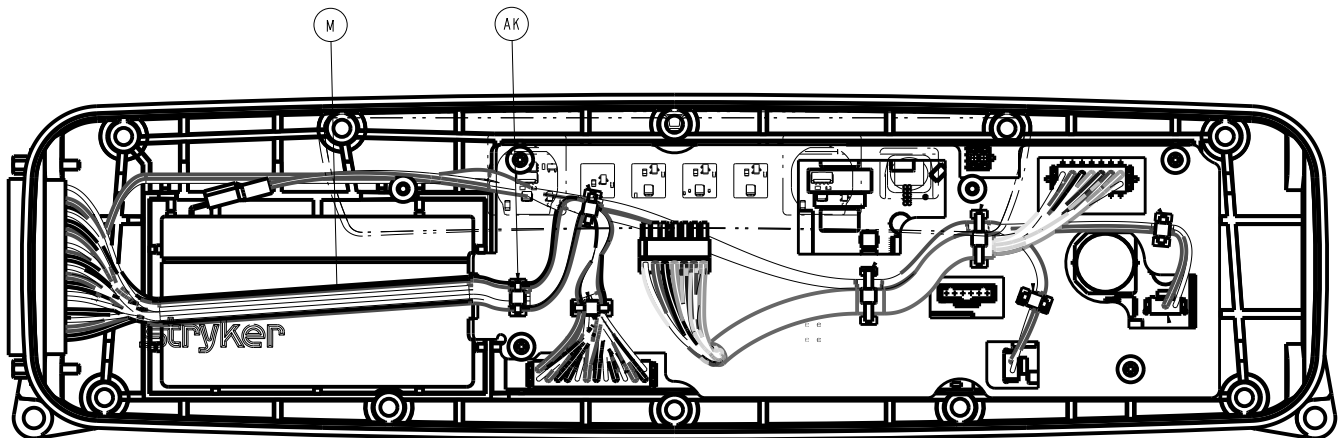

Figure 6 – Replacing the battery (left)
9. Using diagonal pliers, cut the cable tie (3000-300-114) (AK) that secures the 37-pin cable (M) to the cable routing tray (Figure 6). Discard the cable tie.